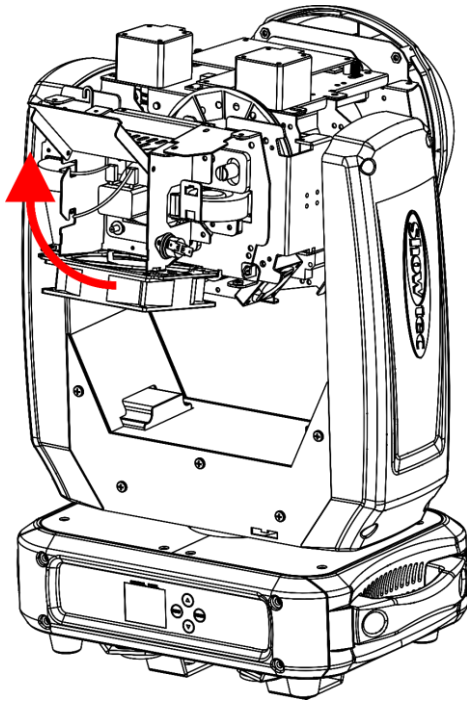

Fig. 19
- 03) Open the lamp housing (Fig. 19).